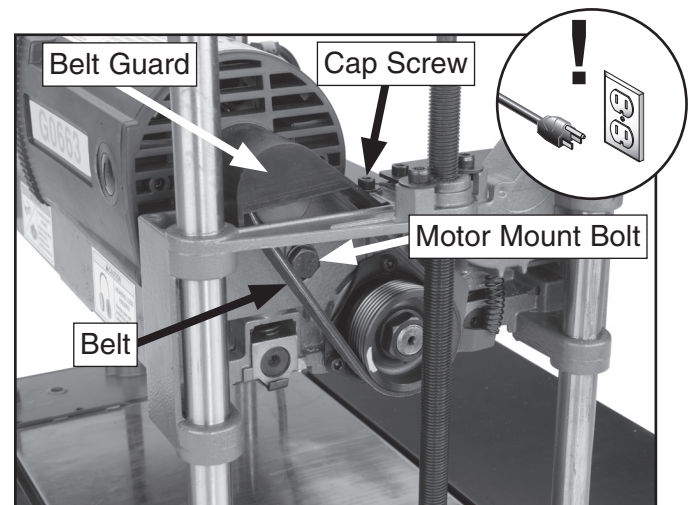

Figure 25. Cutterhead drive components.
3. Remove the belt guard shown in **Figure 25** by removing the cap screw that secures it.
4. Loosen the motor mount bolt, shown in **Figure 25**, to release tension on the belt.